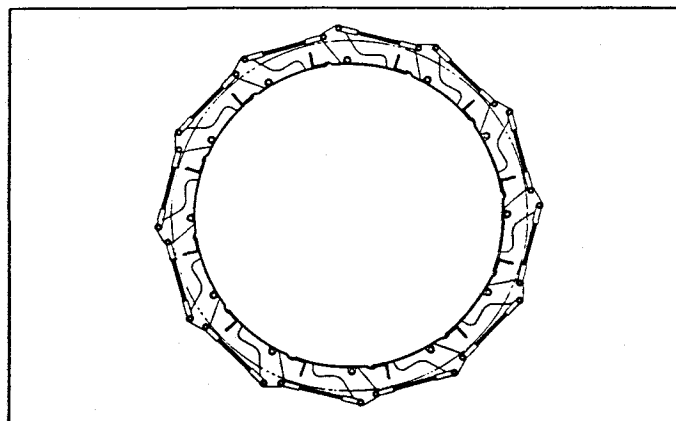

Figure 3 Typical H.D. assembly.
2. Upgrade registers with H.D. register assembly for better reliability (Figure 3). An engineering review is recommended when a major modification is considered.